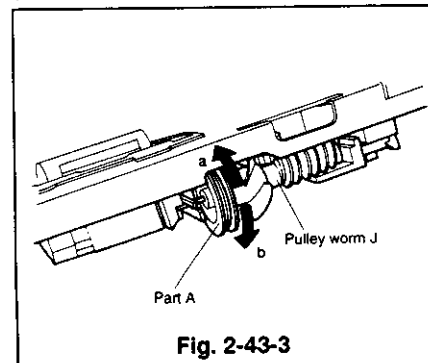
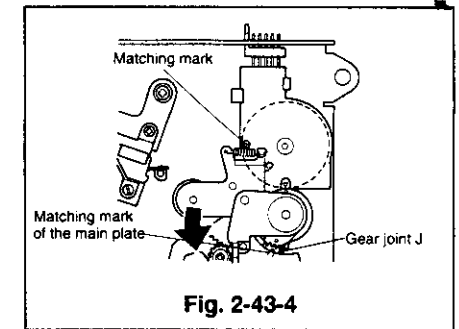

Fig. 2-43-3
Fig. 2-43-4
- ⑤ Slide the supply and takeup tape guide assemblies to the end of the loaded position by either of the following methods.
- Supply voltage (approximately +5V voltage on the red wire) to the loading motor as in ② of the removal method in Para. 2-19.
- Turn part A of pulley worm J by hand, in the direction shown by the arrow (a) as shown in Fig. 2-43-3. Raise the supply and takeup tape guide assemblies upward to remove them.
- ③ Slide the supply and takeup tape guide assemblies to the unloaded position, by either of the following methods so that the upper hole of the mode switch aligns with that of the cogwheel as shown in Fig. 2-43-4.
- Supply voltage (approximately 5V), reversing the polarity used in ④ of the removal method, to the loading motor as ⑤ of the installation method in Para. 2-19.
- Turn part A of the pulley worm J by hand, in the direction shown by the arrow (b) as shown in Fig. 2-43-3.